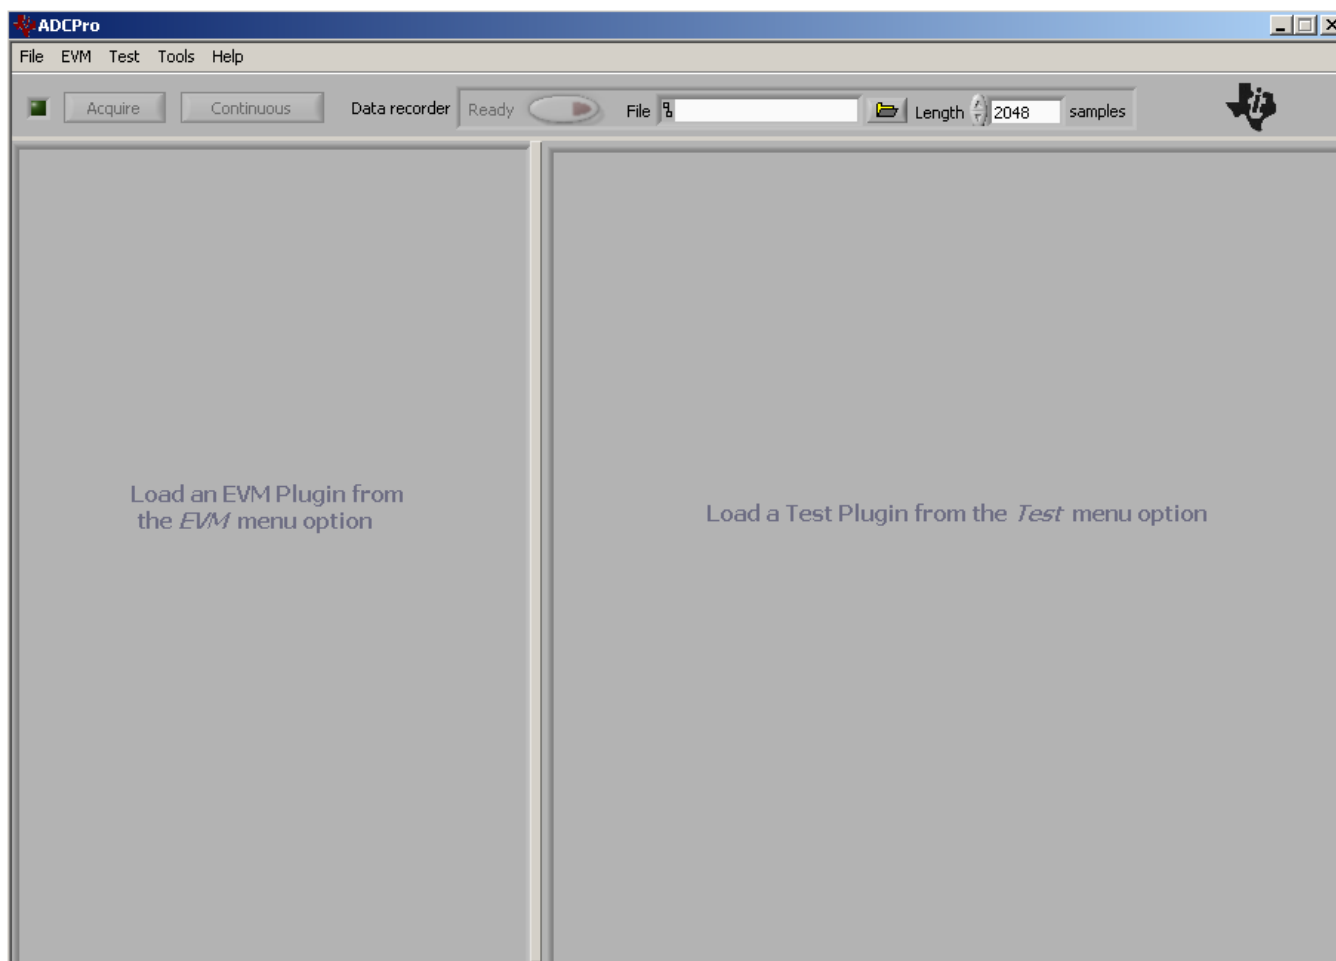

Figure 12. ADCPro Software Start-up Display Window
1. Start the software by selecting *ADCPro* from the Windows Start menu. The screen in Figure 12 appears.